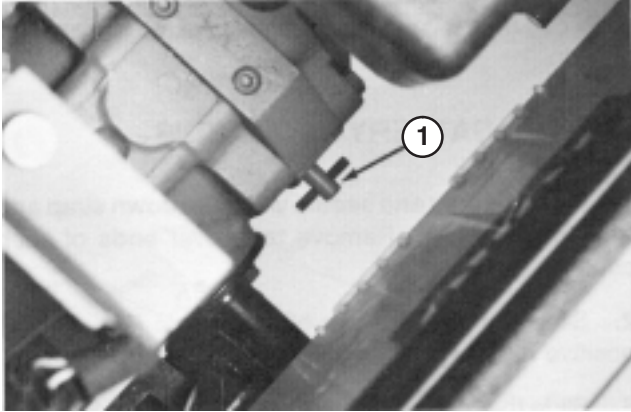

Figure 21
1. Reach under traction unit and rotate by-pass valve (Fig. 21) 1/2 to 1 turn counterclockwise. Opening the valve opens an internal passage in the transmission, thereby by-passing transmission oil. Because fluid is by-passed, traction unit can be moved without damaging the transmission.